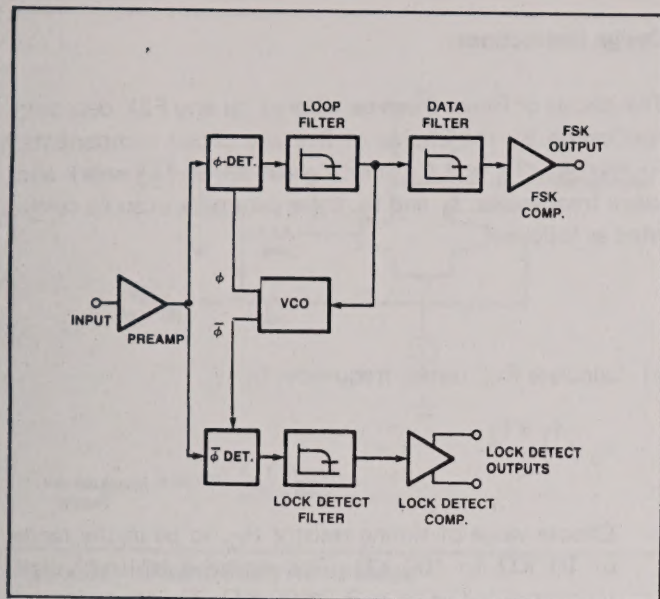

Figure 1: Functional Block Diagram of a Tone and FSK Decoding System Using XR-2211
**Test Conditions:** Test Circuit of Figure 1,  $V^+ = V^- = 6V$ ,  $T_A = +25^\circ C$ ,  $C = 5000 \text{ pF}$ ,  $R_1 = R_2 = R_3 = R_4 = 20 \text{ K}\Omega$ ,  $R_L = 4.7 \text{ K}\Omega$ , Binary Inputs grounded,  $S_1$  and  $S_2$  closed unless otherwise specified.